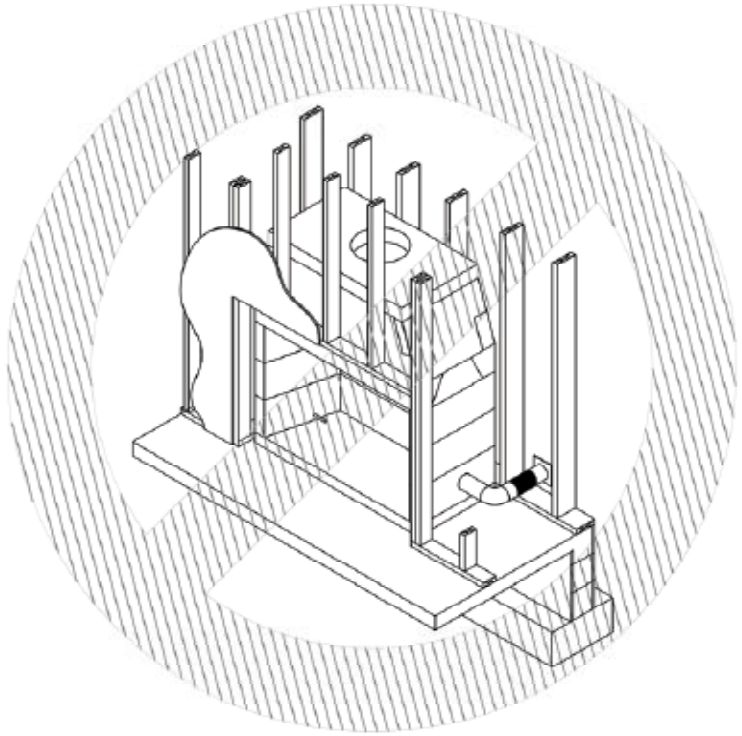

Figure 25
**Important:** Do not build a combustibile frame wall in front of the IBV firebox / smoke dome assembly. (Figure 25)